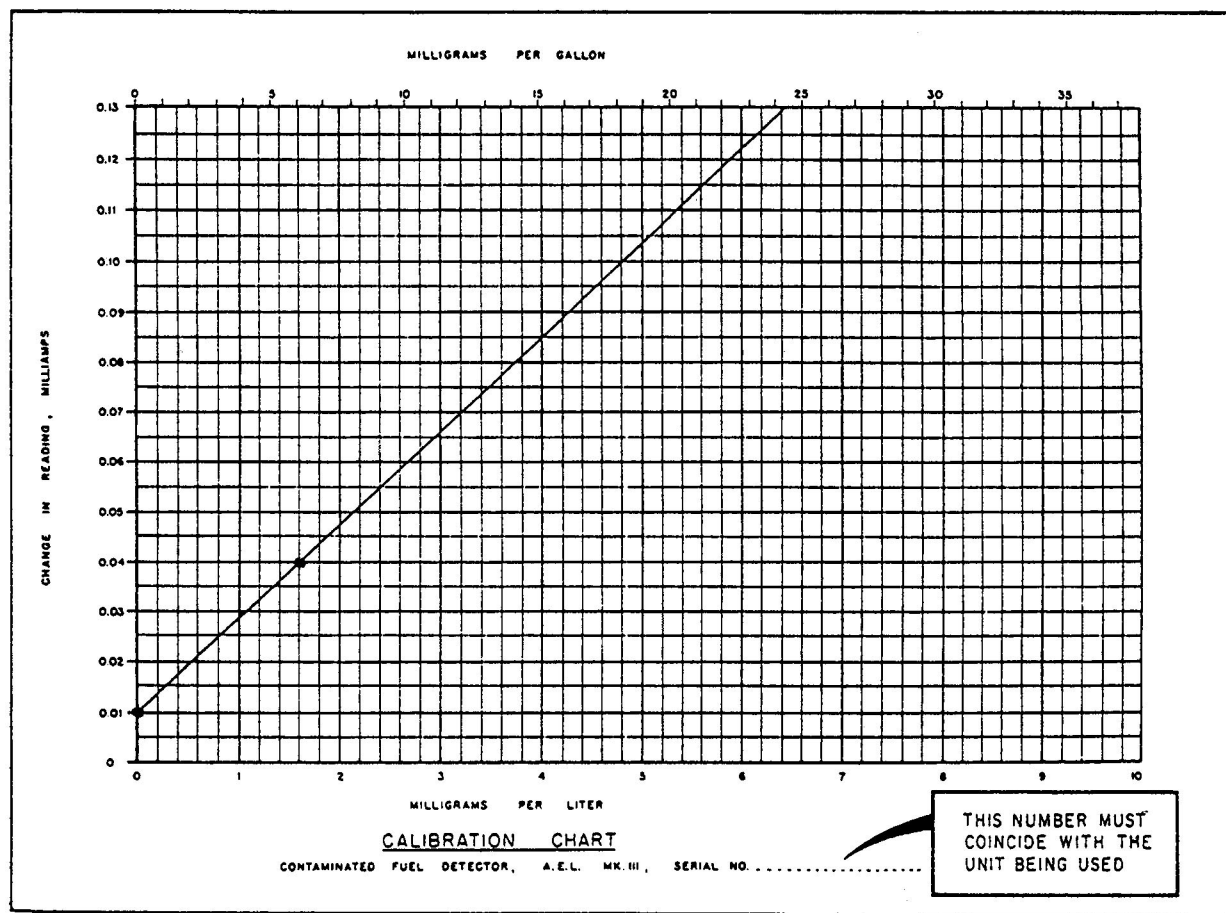

Figure 3-6.—Calibration chart.
from the clean filter. This change in reading value is used with the calibration chart in figure 3-6.
7. To obtain calibration point, subtract the lower of the two milliammeter readings from the higher reading. This difference is plotted on the calibration chart versus the weight of contaminant per liter given for the set of Wratten filters. A second point is plotted at 0 milligrams per liter and 0.01 milliamps change in light reading. Example (fig. 3-6):